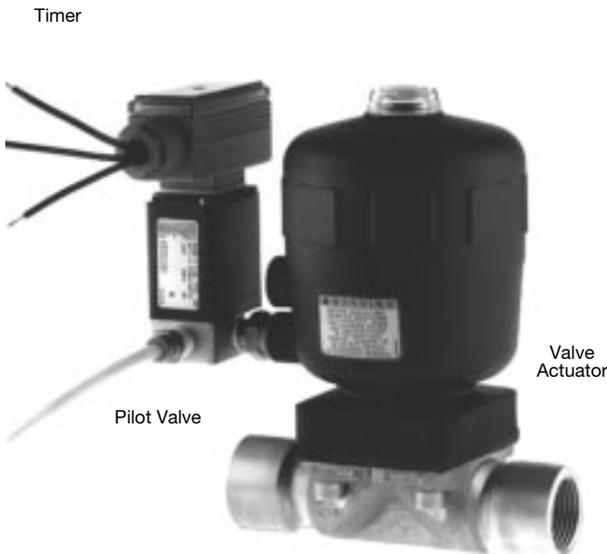

Figure 2
- Run air for the valve in accordance with local code. Be certain that the minimum and maximum control pressure for the air are complied with. Purchase a 1/4" air hose adapter, apply PTFE tape to the threads, and insert into the 1/4" air port on the side of the solenoid valve as shown in Figure 2. Then attach tubing.